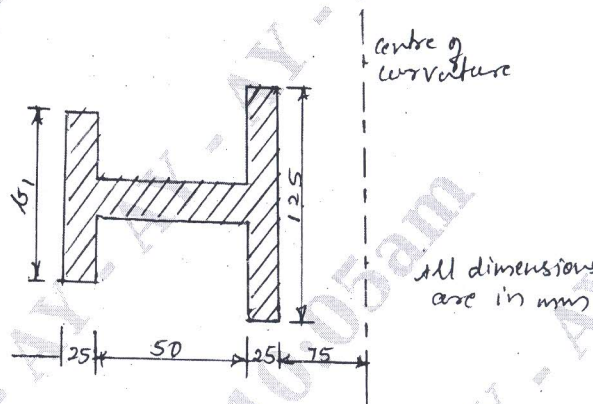

Fig.Q1(b)
b. Determine the value of 'b₁' in the I-cross section of a curved beam shown in Fig.Q1(b). Such that the normal stresses due to bending at extreme inner and outer fibres are numerically equal.